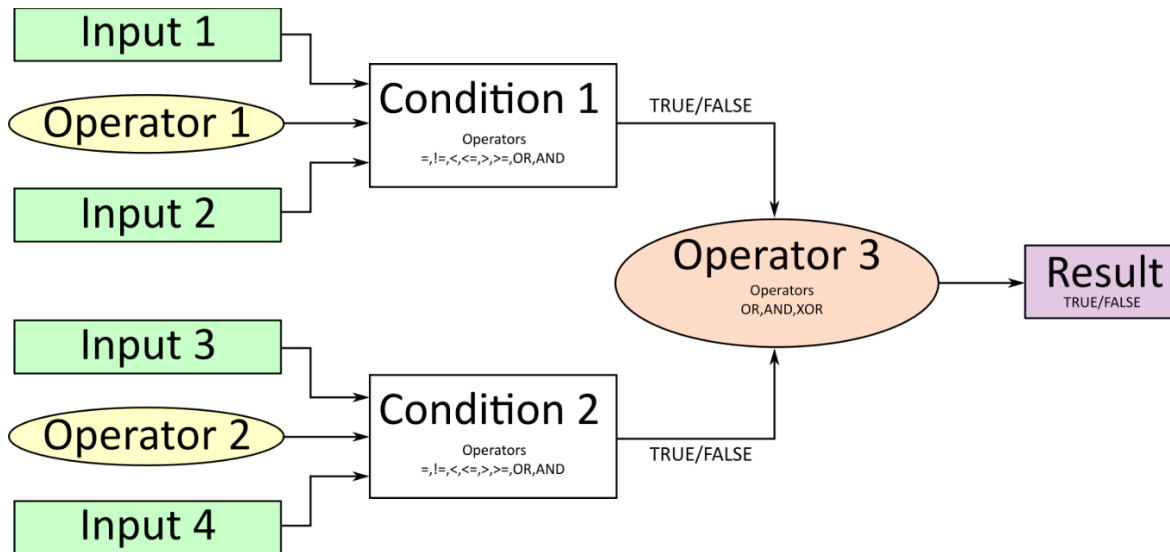

Figure 1: Conditional Block Diagram
The Conditional Block compares up to four different input sources with different logical or relational operators. The result of each block can therefore only be true (1) or false (0). Figure 1 demonstrates the connections between all parameters.